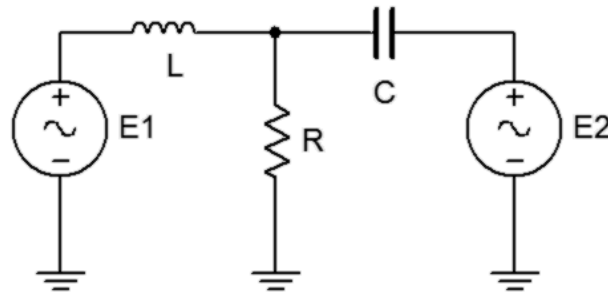

Figure 10.1
1. Typical function generators have a $50\ \Omega$ internal impedance. These are not shown in the circuit of Figure 10.1. To test the superposition theorem, sources $E1$ and $E2$ will be examined separately and then together.
2. Consider the circuit of Figure 10.1 with $C=100\ \text{nF}$, $L=10\ \text{mH}$, $R=1\ \text{k}\Omega$, using only source $E1=2\ \text{V p-p}$ at $1\ \text{kHz}$ and with source $E2$ replaced by its internal impedance of $50\ \Omega$. Using standard series-parallel techniques, calculate the voltages across $E1$, R , and $E2$. Remember to include the $50\ \Omega$ internal impedances in the calculations. Record the results in Table 10.1.
3. Build the circuit of Figure 10.1 using $C=100\ \text{nF}$, $L=10\ \text{mH}$, and $R=1\ \text{k}\Omega$. Replace $E2$ with a $50\ \Omega$ resistor to represent its internal impedance. Set $E1$ to $2\ \text{V p-p}$ at $1\ \text{kHz}$, unloaded. Make sure that the *Bandwidth Limit* of the oscilloscope is engaged for both channels. This will reduce the signal noise and make for more accurate readings. Place probe one across $E1$ and probe two across R . Measure the voltages across $E1$ and R , and record in Table 10.1. Record a copy of the scope image. Move probe two across $E2$ (the $50\ \Omega$), measure and record this voltage in Table 10.1.
4. Consider the circuit of Figure 10.1 using only source $E2=2\ \text{V p-p}$ at $10\ \text{kHz}$ and with source $E1$ replaced by its internal impedance of $50\ \Omega$. Using standard series-parallel techniques, calculate the
6. Consider the circuit of Figure 10.1 using both sources, $E1=2\text{ V p-p at }1\text{ kHz}$ and $E2=2\text{ V p-p at }10\text{ kHz}$. Add the calculated voltages across $E1$, R , and $E2$ from Tables 10.1 and 10.2. Record the results in Table 10.3. Make a note of the expected maxima and minima of these waves and sketch how the combination should appear on the scope
8. Build the circuit of Figure 10.1 in a simulator. Using Transient Analysis, determine the voltage across the resistor and compare it to the theoretical and measured values recorded in Table 10.3. Be sure to include the $50\ \Omega$ source resistances in the simulation.